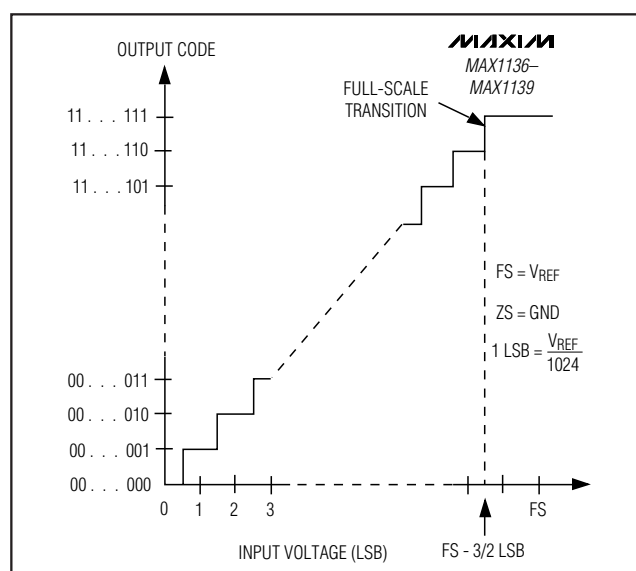
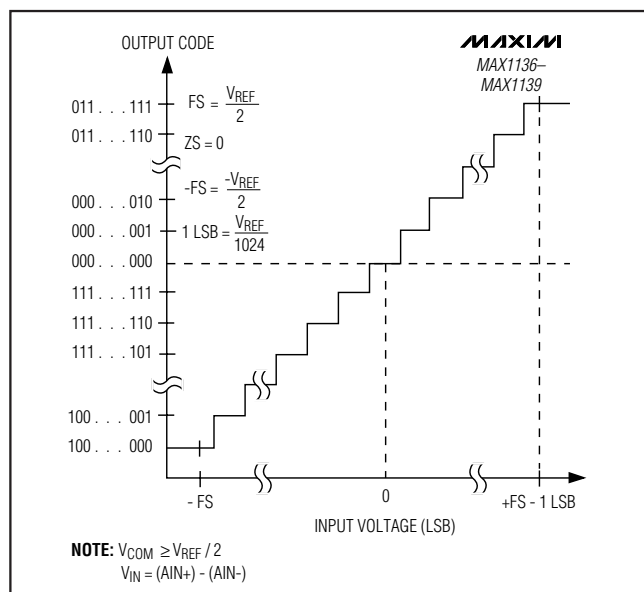

Figure 12. Unipolar Transfer Function
Figure 13. Bipolar Transfer Function
Output data coding for the MAX1136–MAX1139 is binary in unipolar mode and two's complement in bipolar mode with 1 LSB = (V_{REF}/2N) where 'N' is the number of bits (10). Code transitions occur halfway between successive integer LSB values. Figure 12 and Figure 13 show the input/output (I/O) transfer functions for unipolar and bipolar operations, respectively.